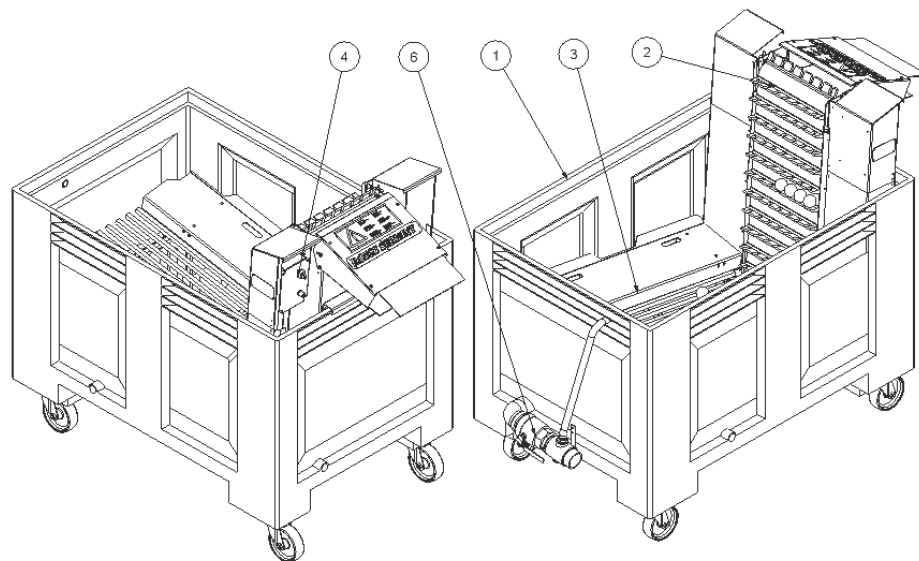

Figure 5: Main Components.
- III. Position the Soaker with the elevator outlet to the ball washer it will be feed in to. If the standard Range Servant washer bin is not to be used for space consideration, mount the special Soaker connection that was supplied, to the ball washer inlet using the two screws and lock nuts. Make sure that the two lockable swivel casters are in the locked position. See Figure 5: Position of Soaker to Ball Washer.